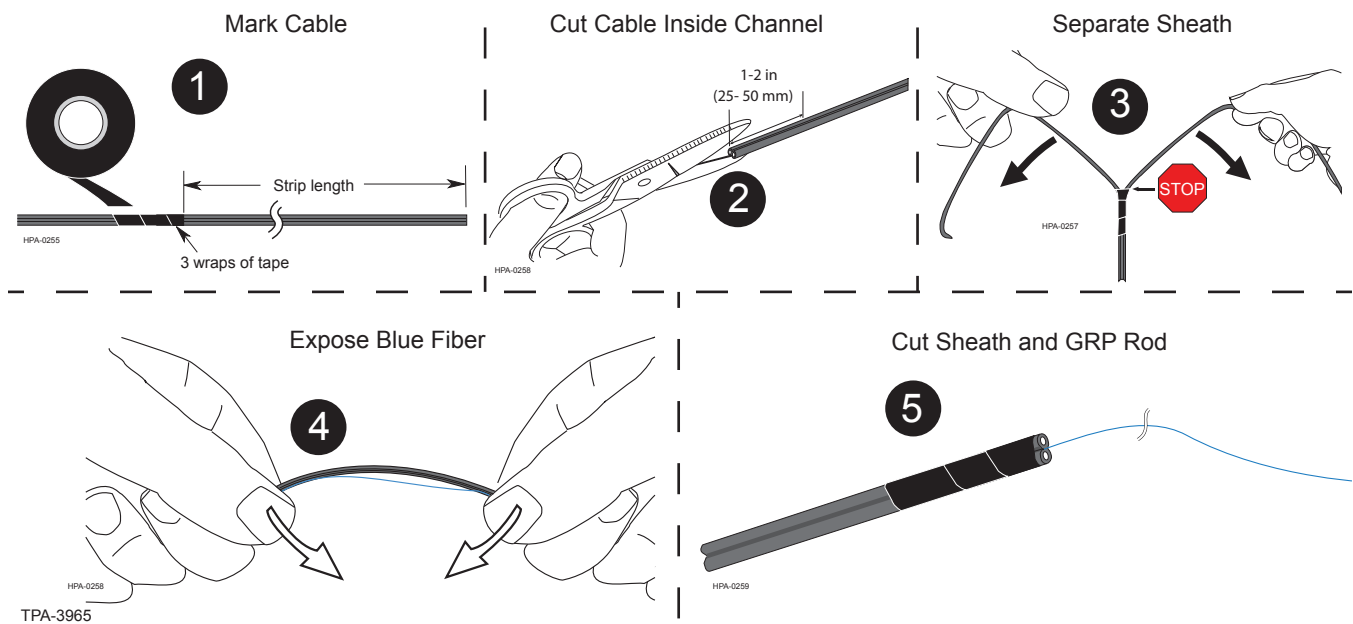

Figure 3 — Prepare ROC Cable with FastAccess Technology
- Step 1:** Mark the cable at the appropriate distance from the cable end with three full spiraling wraps of tape (Figure 3).